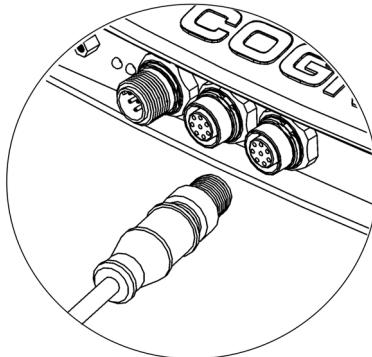

Figure 2-3: CAM Connection
4. Attach the female M12 connector of the camera cable to the remote head camera's male M12 connector. Attach the male M12 camera cable connector to the In-Sight sensor's **CAM** connector (Figure 2-3).